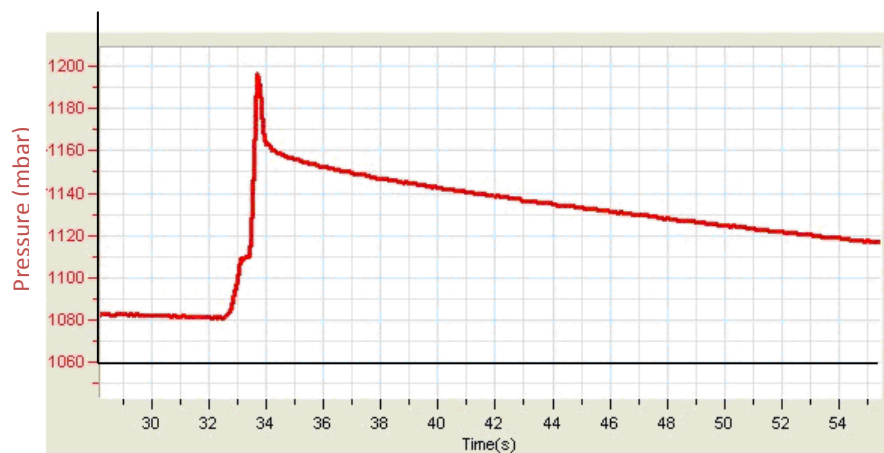

Figure 4
4. If the pressure drops (see Figure 4), there is a leak. Check your seals carefully and use a material such as modeling clay to seal off any possible openings. Repeat step 4. If that doesn't help, replace the stopper.